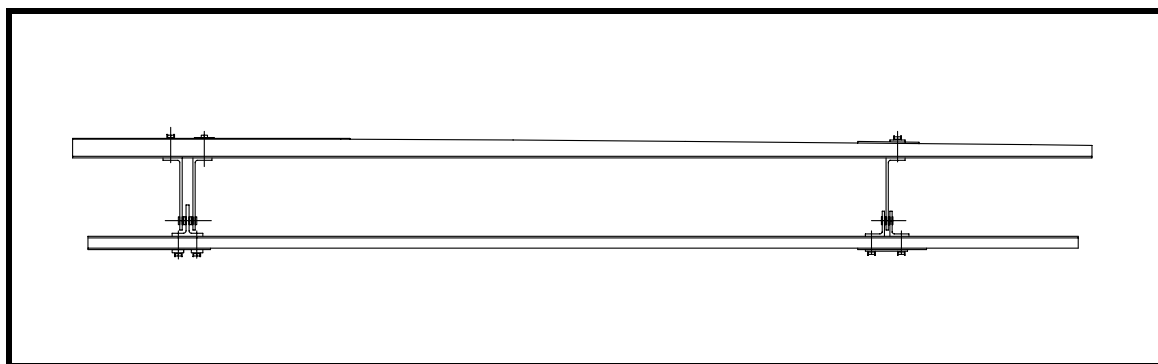

Figure 2
- ❑ Clamp these hinges to the fin and rudder spar. See Figure 2. Check for the correct location of the lower hinge assembly. Check that the lower P/N 757 on the rudder will clear the nose rib. If necessary, move the hinges up.